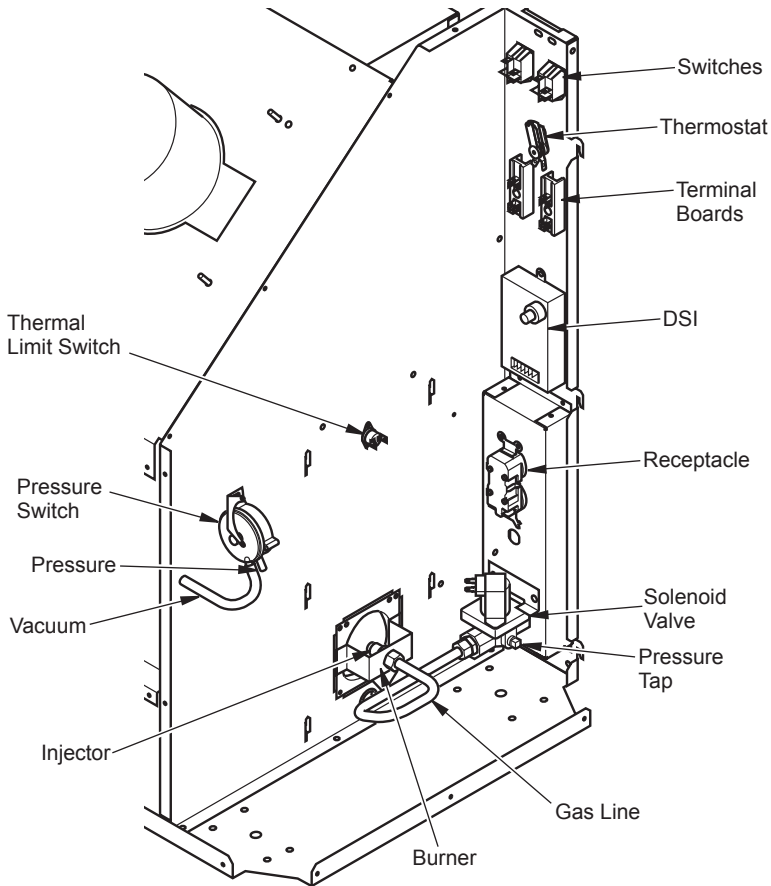

Figure 15 - Tent Heater Parts
2. Locate pressure tap on solenoid valve and remove (retain plug for later installation). See Figure 15, page 17.